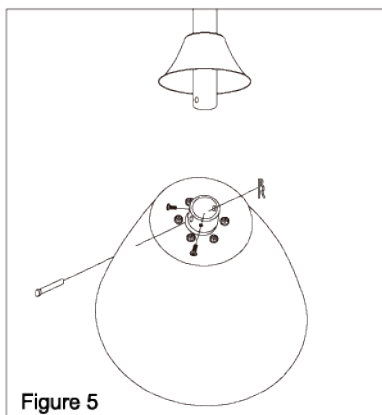

Figure 5
5. Loosen two set screws on the downrod support and then place the downrod into the downrod support.(Figure 5). Thread the electrical wires and the earth wire through the down rod.